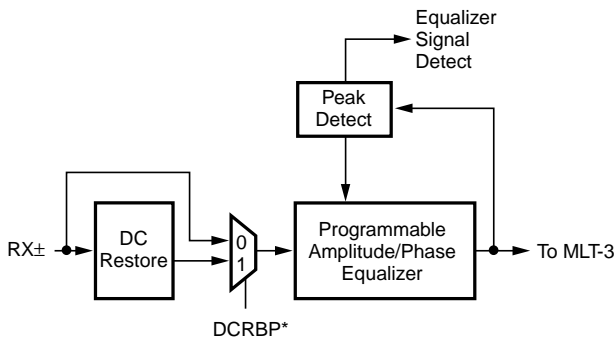

Figure 14. QS6611's Adaptive Equalizer
The signal detect (SD) is asserted High whenever the peak detector in Figure 14 detects a post-equalized signal with peak to ground voltage level larger than 400mV, which is about 80% of normal signal voltage level, and if the energy level is sustained longer than 1ms. It is negated approximately 3ms after the energy